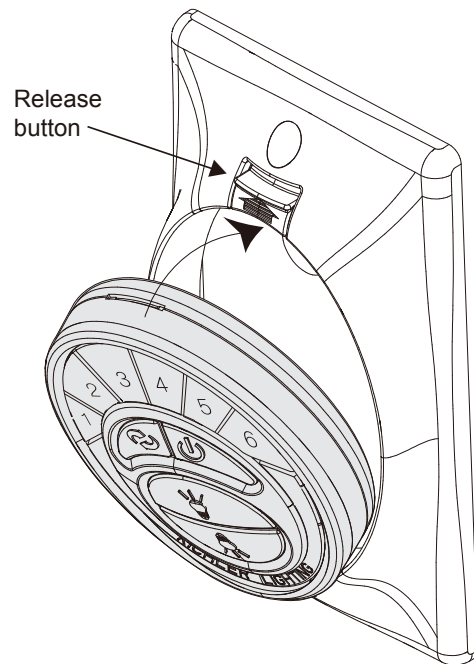

Fig. 30
1. Insert the transmitter into the wall plate by inserting the bottom of the transmitter first and then press the top of the transmitter into the pocket. The transmitter will fully function from this location or you can remove the transmitter and use as a “Hand Held” device. (Fig. 30)